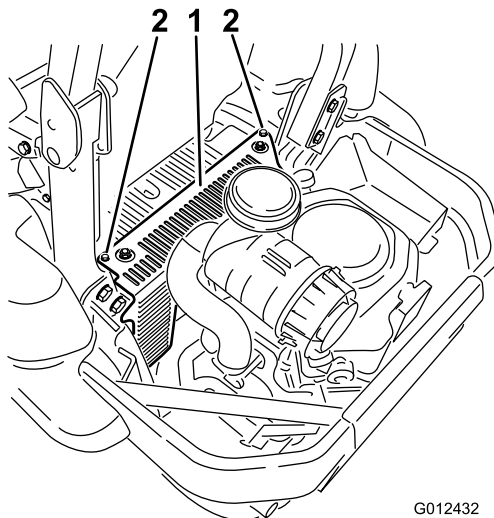

Figure 54
3. Remove the hydraulic unit shroud and the 2 bolts attached to it (Figure 54). This gives you access to the front spark plug.
Install the hydraulic unit shroud (Figure 54).